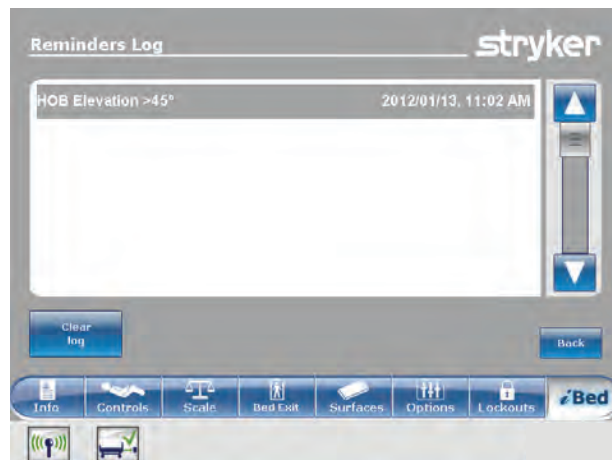

Figure 1-107: Reminders Log
**View reminders log:** View a list of reminders and the values for the date, time, and reminder that was logged (Figure 1-107 on page 1-94).
**Have done / Will do the necessary action:** Tap to acknowledge that the protocol reminder action has been performed on the patient. The reminder alarm is disarmed, and the reminder is logged (Figure 1-107 on page 1-94).
**Did not / cannot do the necessary action:** Tap to explain why the protocol reminder action cannot be performed on the patient. The reminder is not disarmed, and the reminder is logged (Figure 1-107 on page 1-94).
The **Reminders Log** screen lists reminders and the values for the date, time, and reminder that was logged (Figure 1-107 on page 1-94).
To clear the highlighted reminder from the reminders log, tap **Clear log** (Figure 1-107 on page 1-94).
To return to the **Reminder** screen, tap **Back** (Figure 1-107 on page 1-94).